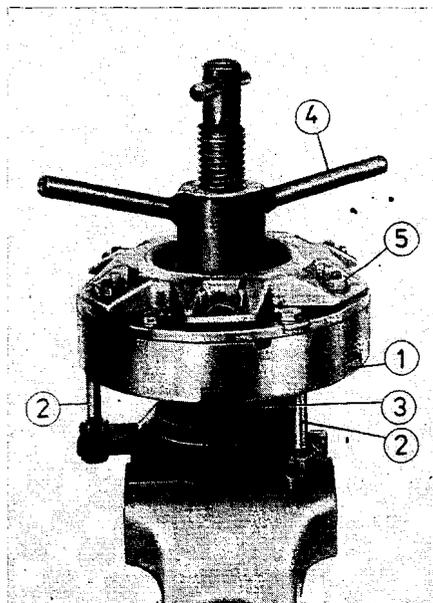
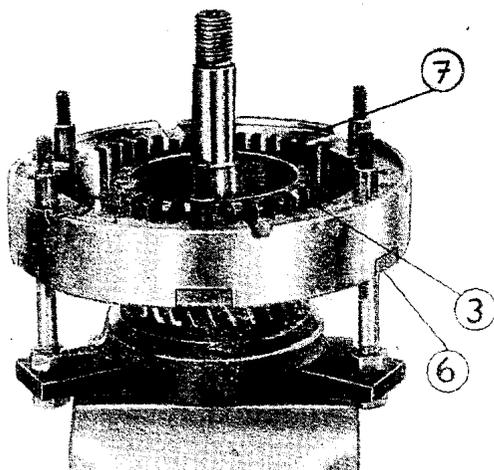
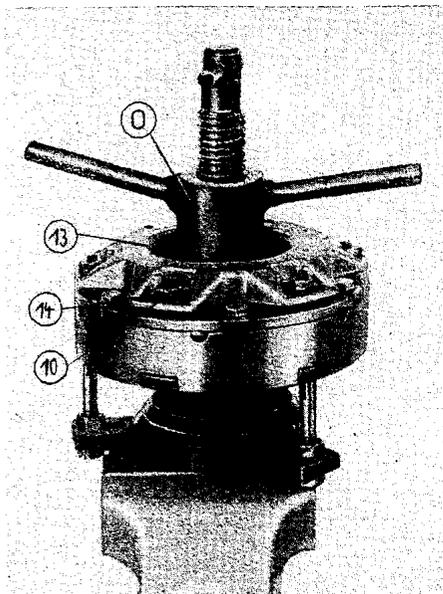
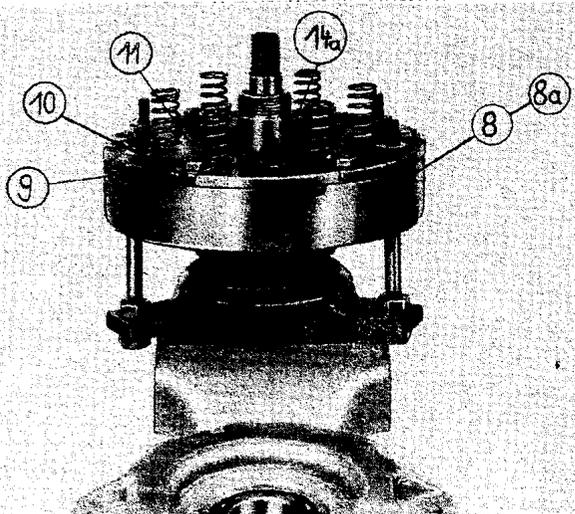

Fig. 18. Dismantling the clutch
Fig. 19. Assembling the clutch - 1st phase
Fig. 20. Clutch - screwing the pressure flange in place
Fig. 19a. Assembling the clutch - 2nd phase
The assembly device O5-MW 150-2 (Fig. 18) enables the dismantling and assembling of the clutch. To facilitate work, it is clamped in a vice. Fig. 20 shows the mounting position.
For dismantling or checking the clutch, it must be so positioned that the pressure plate (1) is not put on the propping screws (2) (Fig. 18).
Sequence of clutch assembling (Figs. 19, 19a, 20, 21)
- Put internal driver with drive gear (3) on the assembling device (Fig. 19);
- Place the pressure plate with spacer bolt (6) on the supporting screws of the assembling device (Fig. 19);
- Put the gear ring (7) in place (Fig. 19);
- Alternately fit internal segments (8) and external segments (8a) (the parcel of segments is centred by the internal driver);
- Mount the clutch body (9), screw in the hexagon-head screws (11) with lock plates (10) and lock them (Fig. 19a);
- Place the spacer washers 00-18.196 (14a) on the spacer bolts (Fig. 19a);
- Put the compression springs (12) on the clutch body (9);
- Mount the pressure flange (13) and tension it with the upper part of the clutch assembling device. Adding the lock plates (10), fasten the pressure flange by means of the nuts (14) and lock them (Fig. 20).
The lock nut (4) of the assembling device (Fig. 18) is tightened by turning clockwise, it must be possible to turn the internal driver (3) with drive gear. The same test can be performed with the upper part of the O5-MV 150-2 assembling device with the clutch mounted in the engine.